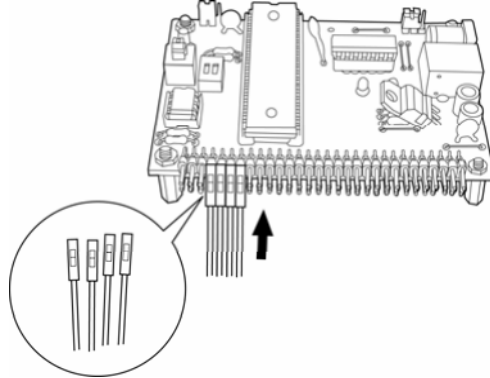

Fig. 2-2
2. Plug the loose ends into the connectors on the circuit board to be analyzed (Fig.2-2).